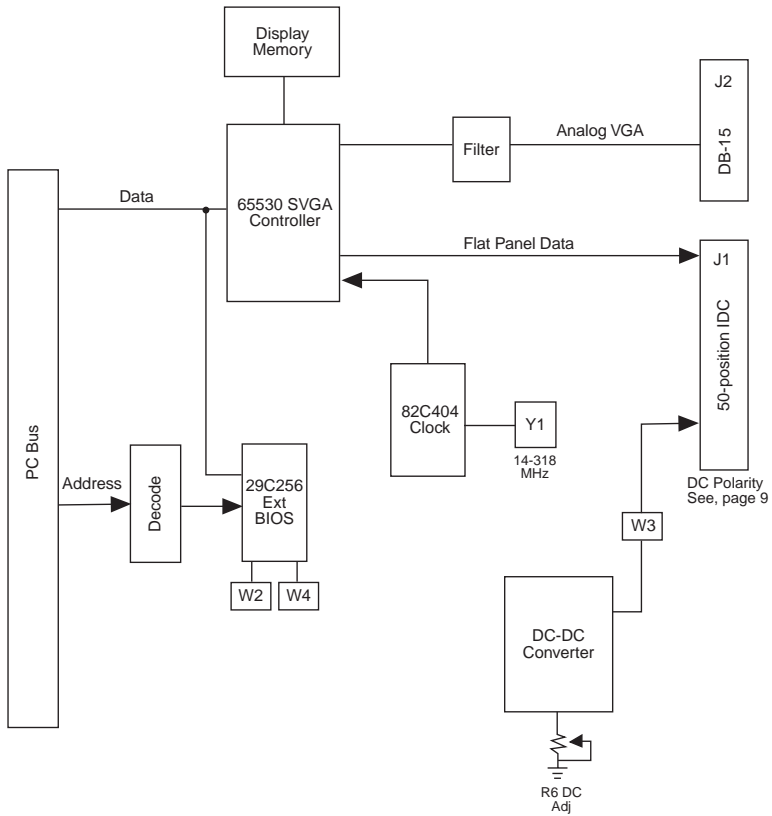

Figure 3—5420 Functional Diagram
5. Refer to Figure 3 for a functional diagram of the 5420 card: